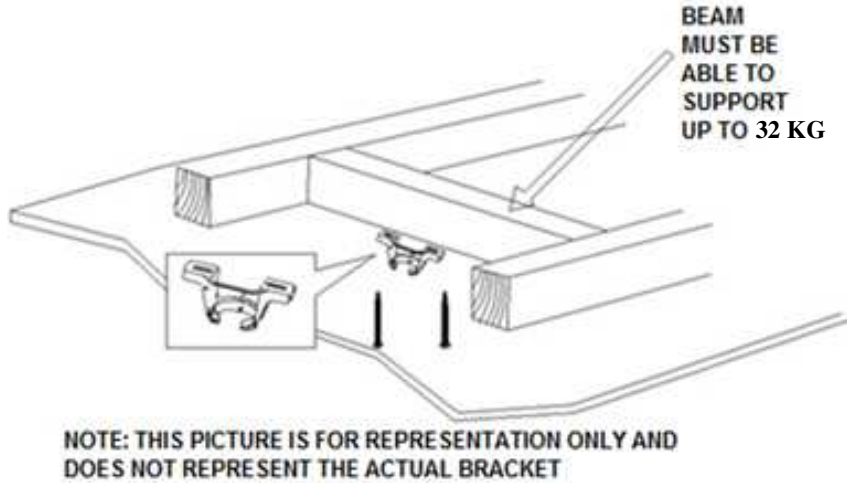

Fig. 2
- Install the hanging bracket to the ceiling joist or structure that is capable of carrying a load of at least 32kg, with the two long screws provided. Ensure at least 30mm of the screw is threaded into the support. (Fig. 2)